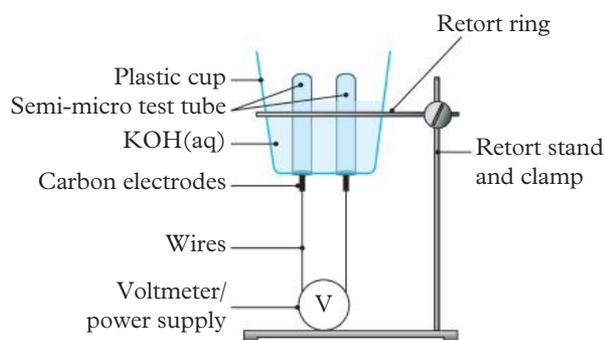

FIGURE 1 Experimental set-up of an electrolytic cell
- 1 Set up the retort stand with the retort ring as shown in Figure 1. Place the plastic cup fuel cell in the retort ring.